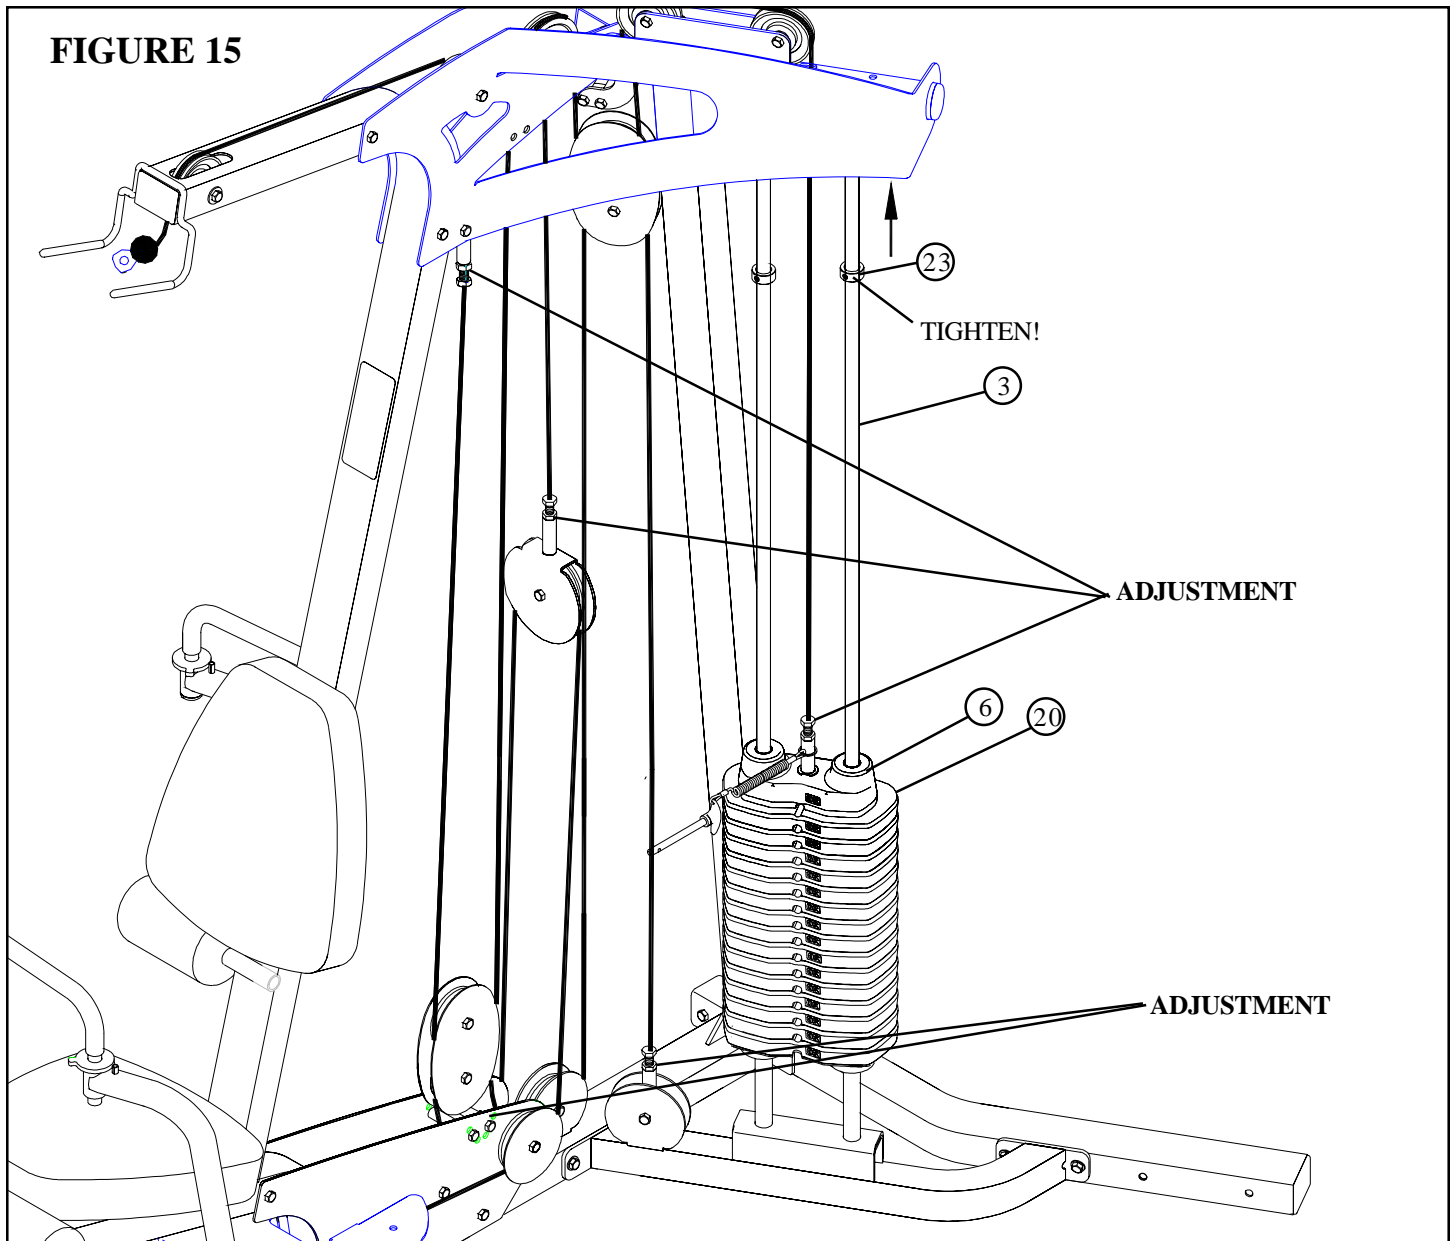

**FIGURE 14**
- Assemble the LEG CABLE (8) to the PEDESTAL and route the LEG CABLE (8) through the BASE FRAME as shown in FIGURE 14. (NOTE: Remove pulleys for ease of installation.)
- Route the LEG CABLE (8) around the 3-1/2" PULLEY on the PULLEY PLATES using one existing 3/8 X 1-3/4" BOLT and one existing 3/8" LOCK NUT. See FIGURE 14.
- Securely assemble the threaded end of the LEG CABLE (8) to the THREADED HOUSING (24) then assemble the THREADED HOUSING (24) to the bracket on the STACK BASE (1) using one 3/8 X 1-3/4" BOLT (13) and one 3/8" LOCK NUT (17) as shown in FIGURE 14.